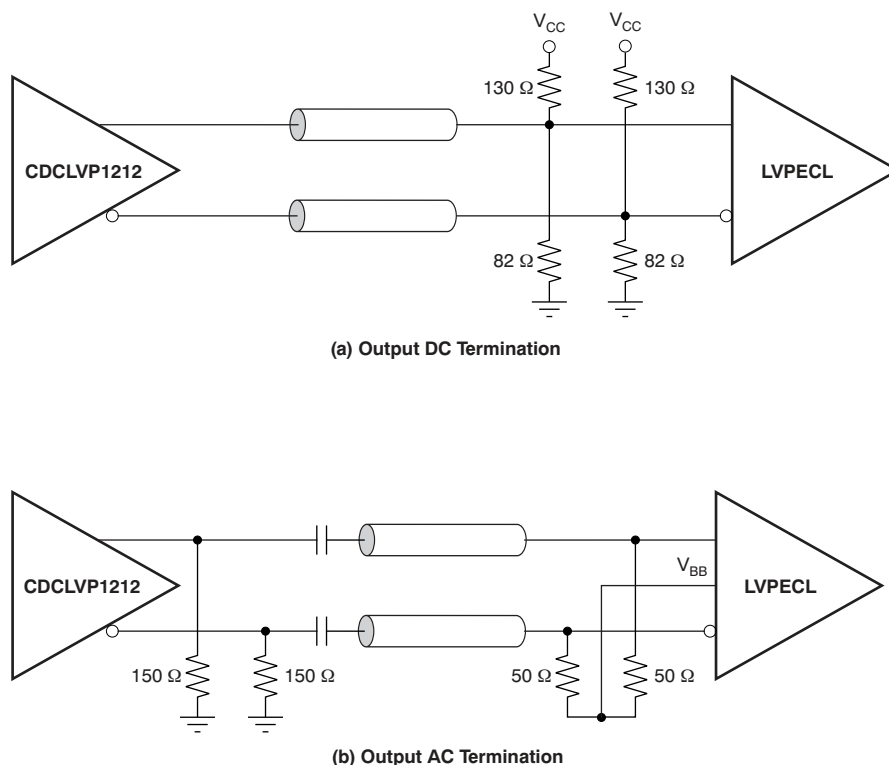

Figure 13. LVPECL Output DC and AC Termination For  $V_{CC} = 3.3\text{ V}$
The CDCLVP1212 uses an open emitter follower stage for its LVPECL outputs. Therefore, proper output biasing and termination are required to ensure correct operation of the device and to maximize output signal integrity. The proper termination for LVPECL outputs is a  $50\ \Omega$  to  $(V_{CC} - 2)$  V, but this DC voltage is not readily available on PCB. Therefore, a Thevenin equivalent circuit is worked out for the LVPECL termination in both direct-coupled (DC) and AC-coupled configurations. These configurations are shown in Figure 12 (a and b) for  $V_{CC} = 2.5$  V and Figure 13 (a and b) for  $V_{CC} = 3.3$  V, respectively. It is recommended to place all resistive components close to either the driver end or the receiver end. If the supply voltage for the driver and receiver is different, AC coupling is required.
The CDCLVP1212 is an open emitter for LVPECL outputs. Therefore, proper biasing and termination are required to ensure correct operation of the device and to minimize signal integrity. The proper termination for LVPECL outputs is a  $50\ \Omega$  to  $(V_{CC} - 2)$  V, but this DC voltage is not readily available on PCB. Therefore, a Thevenin equivalent circuit is worked out for the LVPECL termination in both direct-coupled (DC) and AC-coupled configurations. These configurations are shown in Figure 12 (a and b) for  $V_{CC} = 2.5$  V and Figure 13 (a and b) for  $V_{CC} = 3.3$  V, respectively. It is recommended to place all resistive components close to either the driver end or the receiver end. If the supply voltage for the driver and receiver is different, AC coupling is required.